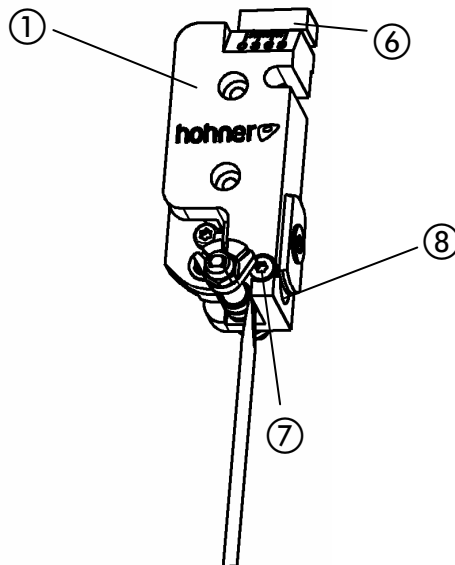

Fig. 33
- Loosen the clamping screw ⑦ and remove the circular knife ⑧.
- Fig. 33 -